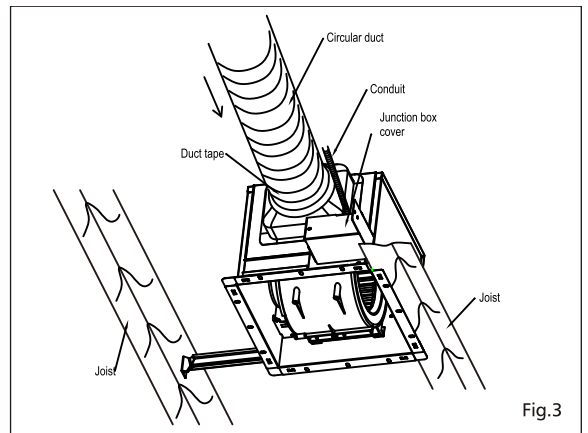

Fig.3
4. Install a circular duct and secure it with clamps or wire ties and seal it with mastic or approved duct tape. (Fig.3)
5. Remove junction box cover and secure conduit or stress relief to junction box knock-out hole. (Fig.3)